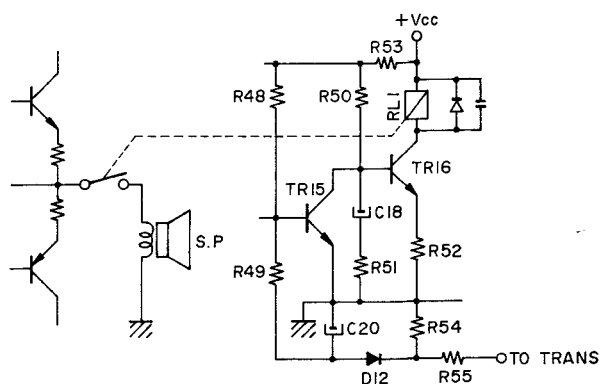

Fig. 8 Mute Circuit
3. Mute Circuit (Refer to Fig. 8)
This is prevented by the circuit shown in Fig. 8. When the power is turned ON, TR15 base is reverse biased through D12, C20, R49, R54, and R55 and is put into an OFF condition.